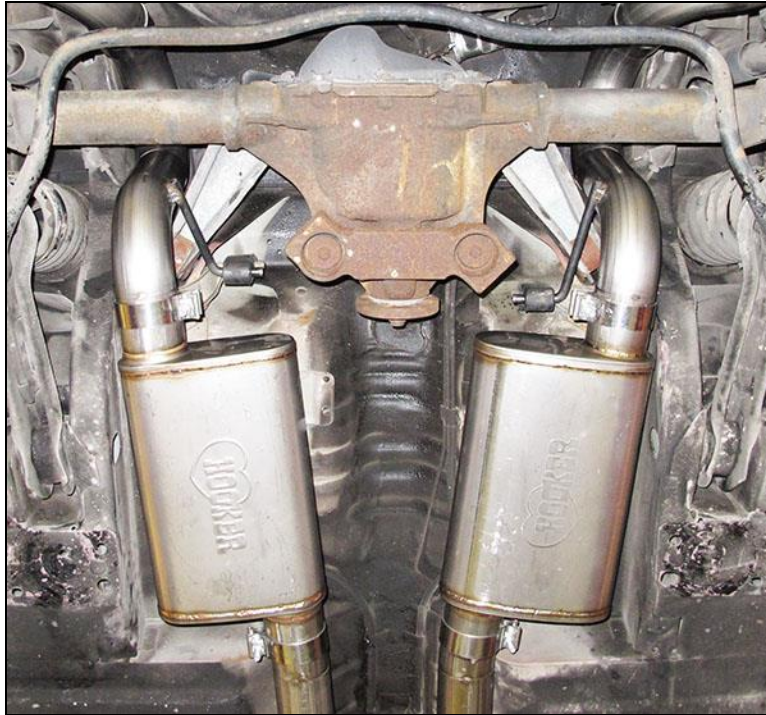

Figure 1
5. Feed the over-axle tube assemblies over the rear axle and insert the end of the hanger rod on each into the corresponding stock rubber hangers in front of the axle. Apply a liberal dose of penetrating oil into the rubber hangers to minimize the force needed to insert the hanger rods into them. Refer to **Figure 1** below as a photo reference for this step, through step 7.